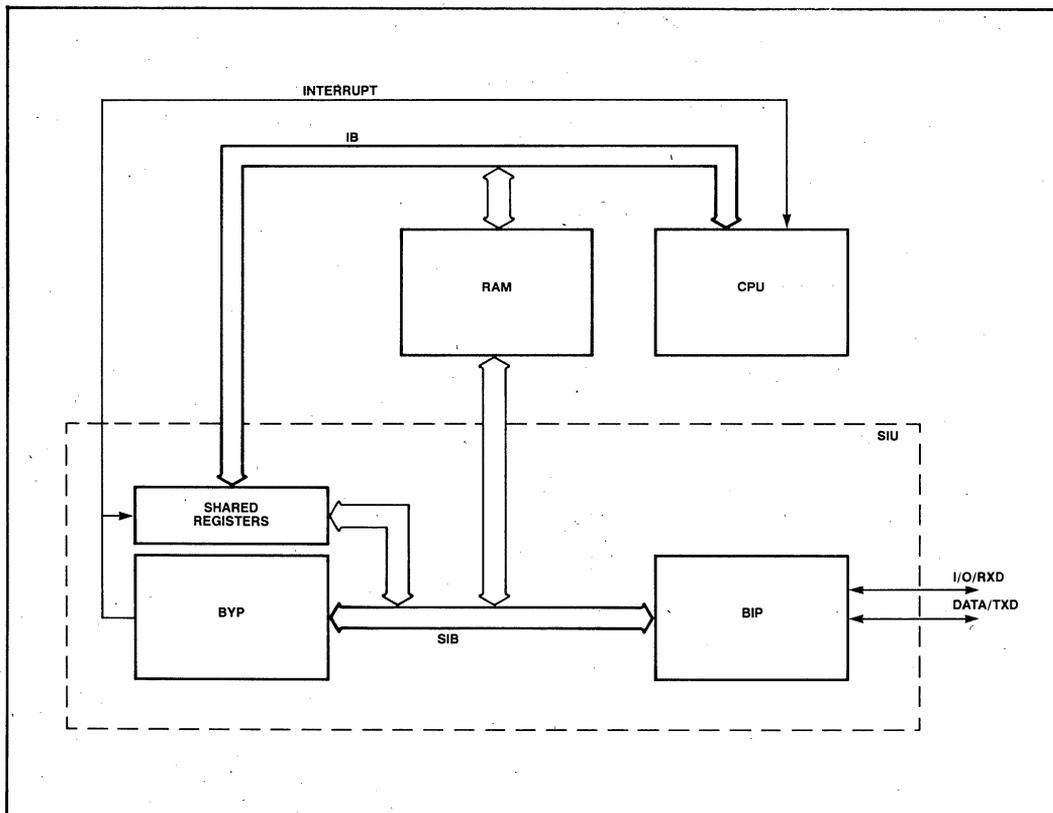

Figure 19-14. The Bit and Byte Processors
The SIU divides functionally into two sections—a bit processor (BIP) and a byte processor (BYP)—sharing some common timing and control logic. As shown in Figure 19-14, the BIP operates between the serial port pins and the SIU bus, and performs all functions necessary to transmit/receive a byte of data to/from the serial data stream. These operations include shifting, NRZI encoding/decoding, zero insertion/deletion, and FCS generation/checking. The BYP manipulates bytes of data to perform message formatting, and other transmitting and receiving functions. It operates between the SIU bus (SIB) and the 8044's internal bus (IB). The interface between the SIU and the CPU involves an interrupt and some locations in on-chip RAM space which are managed by the BYP.